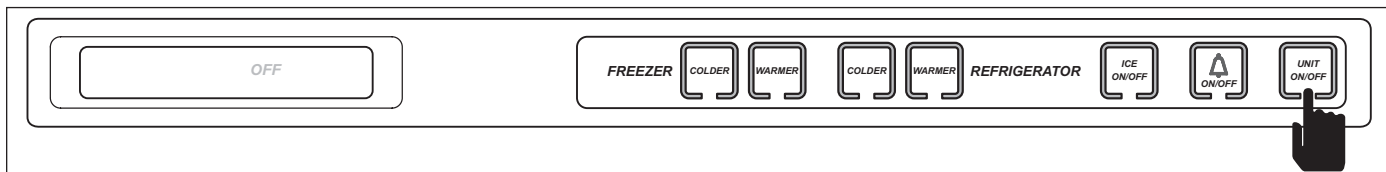
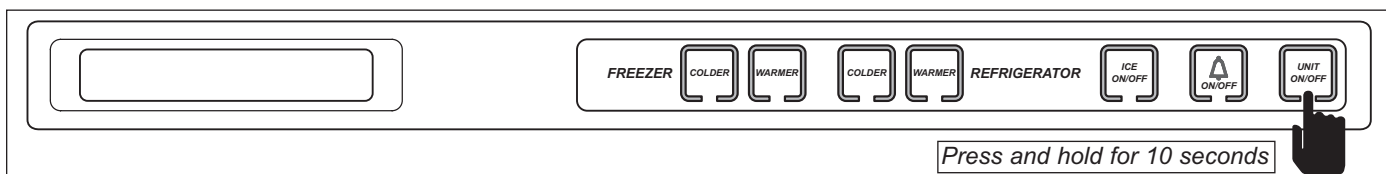

Figure 3-11. To Enter Sabbath Mode, Switch Unit OFF First
Figure 3-12. Then Press and Hold UNIT ON/OFF Key for 10 Seconds
To initiate Sabbath Mode, the unit must first be switched OFF using the UNIT ON/OFF key (See Figure 3-11), then press and hold the UNIT ON/OFF key until the LCD and lights switch OFF, approximately ten (10) seconds (See Figure 3-12). To return to normal operation, press and release the UNIT ON/OFF key.
**NOTE:** During Sabbath Mode, the compartment thermistors still control compressor operation, except when high offset is reached, there is a random fifteen (15) to twenty-five (25) second delay before compressors are energized.